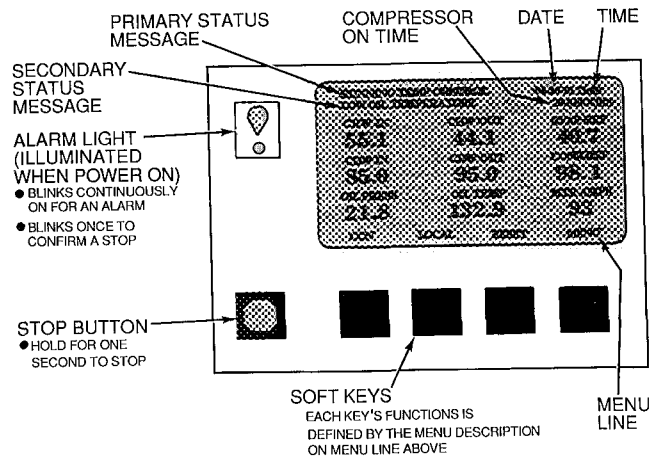

Fig. 12 - LID Default Screen
LID Operation and Menus (Fig. 12 - 16)
- The LID screen will automatically revert to the default screen after 15 minutes if no softkey activity takes place and if machine is not in the pumpdown mode (Fig. 12).